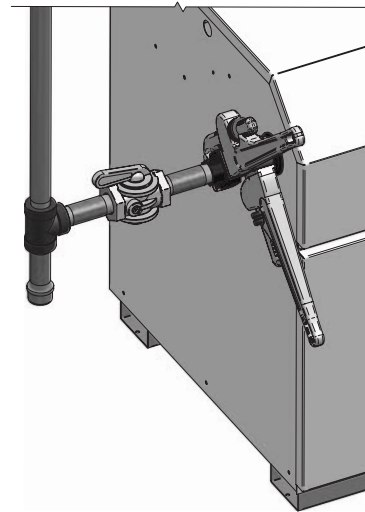

Figure 6-2 Wrench to Support Gas Valve for Piping Connection
8. Connect the gas pipe to the inlet of the unit. Use a wrench to support the gas manifold on the unit (FIG. 6-2).